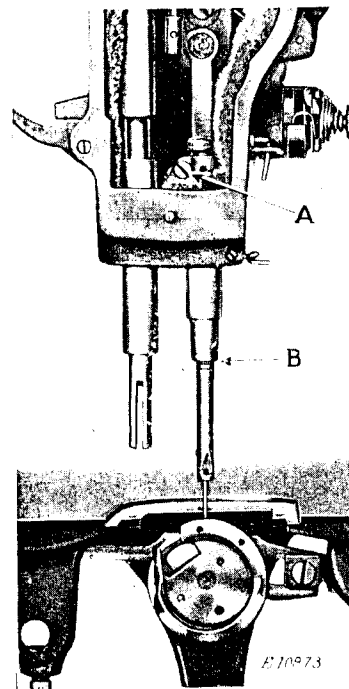

Fig. 17. Showing Needle Bar
Turn the balance wheel over toward you until the needle bar moves down to its lowest point. When the needle bar is in this position, the upper timing mark on the needle bar should be just visible at the lower end of the needle bar bushing, as shown at B, in Fig. 17.
In case the needle bar is not set at the correct height, loosen the needle bar connecting stud pinch screw (A, Fig. 17) and move the needle bar up or down until the upper timing mark is in the position, as instructed above, then securely tighten the screw (A).